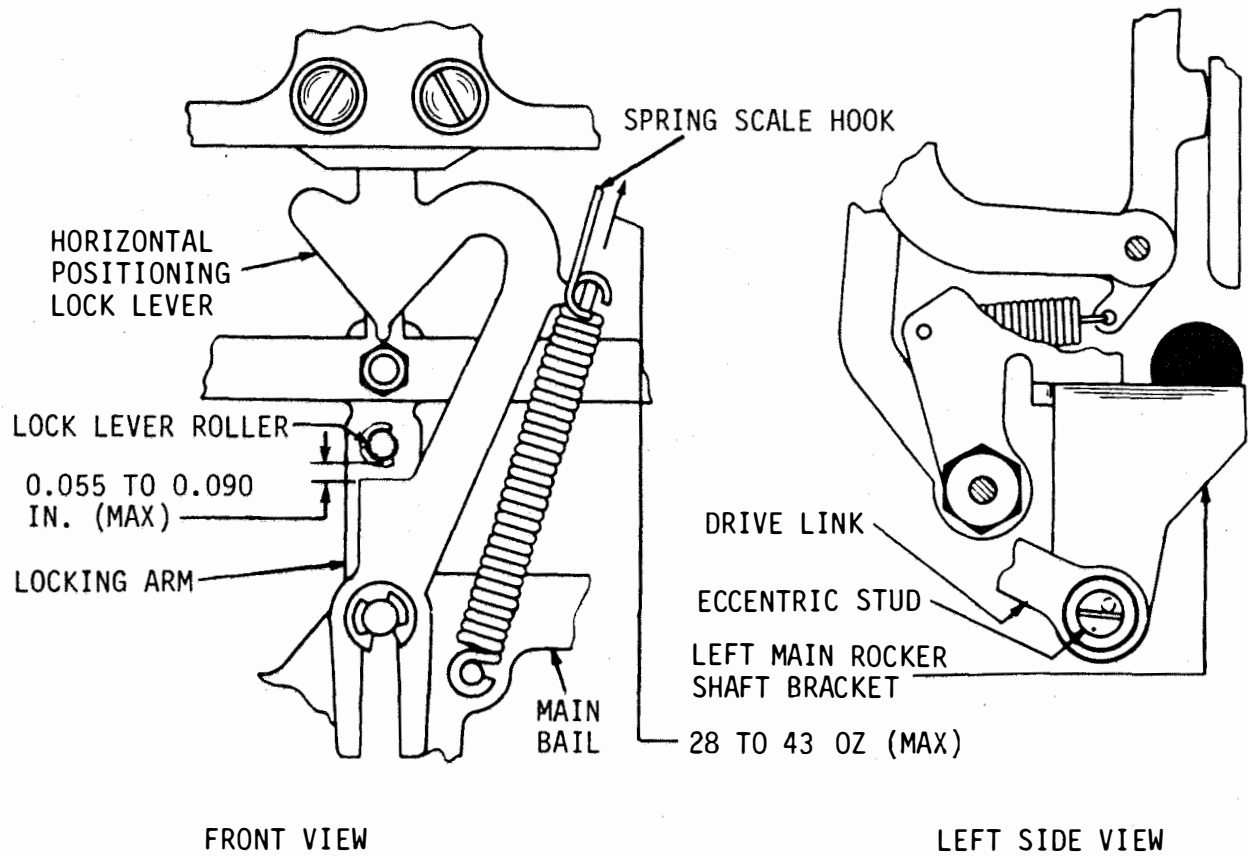

Figure 6-51. Rocker Shaft Bracket Eccentric Stud and Horizontal Positioning Locklever Spring
(a) Refer to Figure 6-51.
- (a) Refer to Figure 6-51.